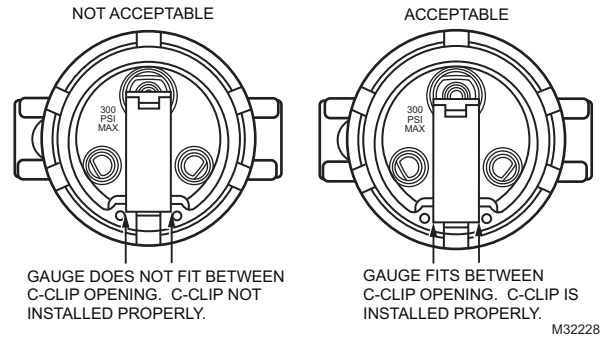

Fig. 5. Proper feeler gauge fit.
10. **IMPORTANT:** Use feeler gauge provided to measure between tongues of C-clip snap ring to ensure actuator mounting plate is properly secured. The feeler gauge will pass freely between the ends of the snap ring only when the C-clip is seated fully in its groove. Failure to properly seat the C-clip can cause rapid decompression of the valve when it is re-pressurized resulting in possible personal injury or property damage. See Fig. 5 and 6 for proper configurations.